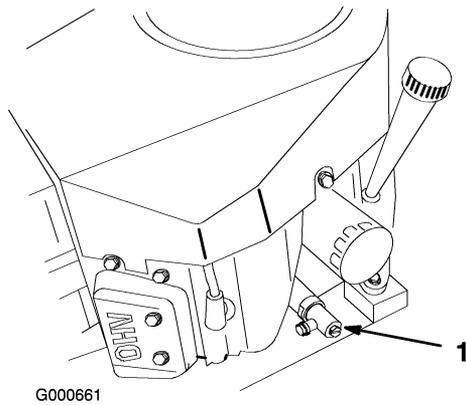

Figure 32
3. Place a pan below the oil drain. Use either a flat screw driver, 3/8 inch (10 mm) wrench to open valve (Figure 32).
4. Rotate valve end counterclockwise to open valve (Figure 32).
5. When oil has drained completely, rotate valve end clockwise to close the valve (Figure 32).